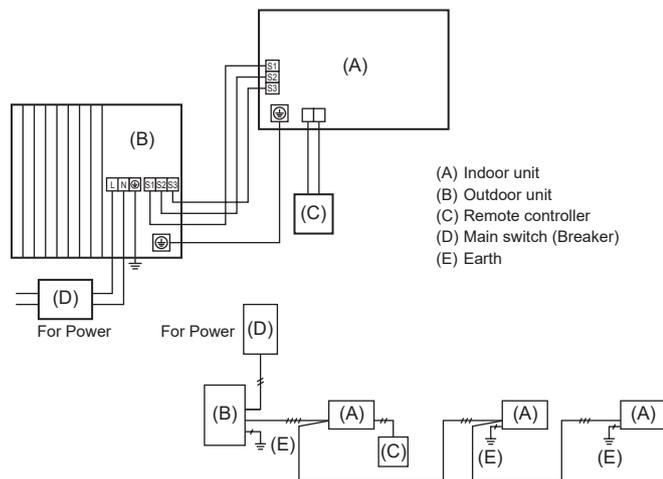
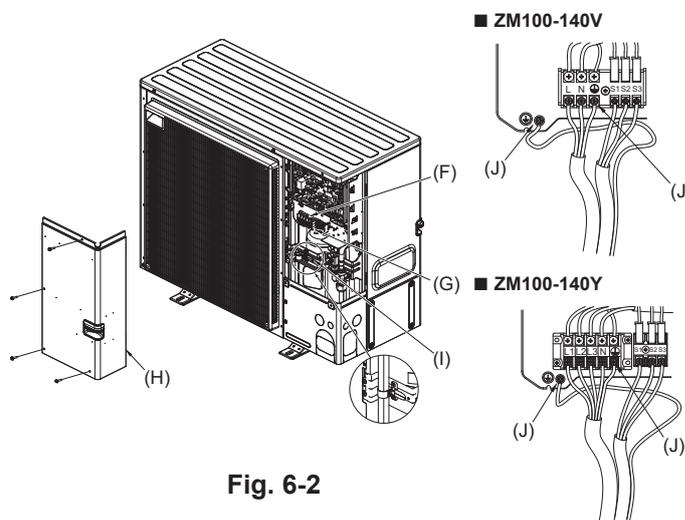

Fig. 6-1
Fig. 6-2
### 6.1. Outdoor unit (Fig. 6-1, Fig. 6-2)
(1) Remove the service panel.
(2) Wire the cables referring to the Fig. 6-1 and the Fig. 6-2.